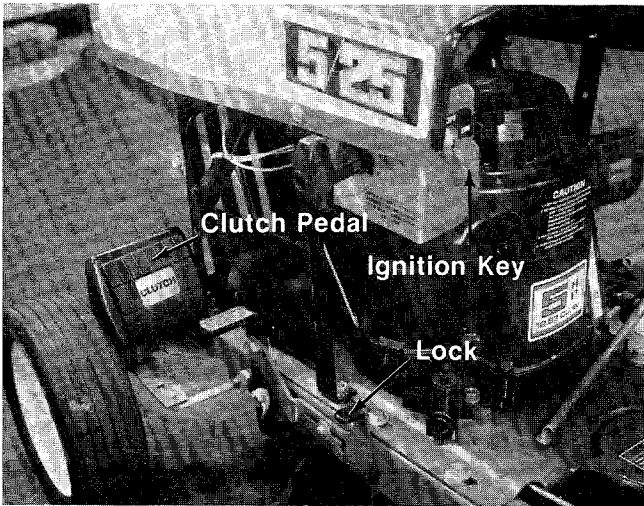

FIGURE 13.
F. The Clutch Pedal is operated with your left foot. The Clutch Pedal, when depressed, disengages the engine from the transmission so you can stop the movement of the rider mower to shift gears. The Clutch Pedal can be locked in the DISENGAGED position by depressing the Clutch Pedal and lifting the clutch lock with your left hand. To release the Clutch Pedal, depress it with your foot. See figure 13.
4. Depress the Clutch Pedal and lock it down with lock. See figure 13.